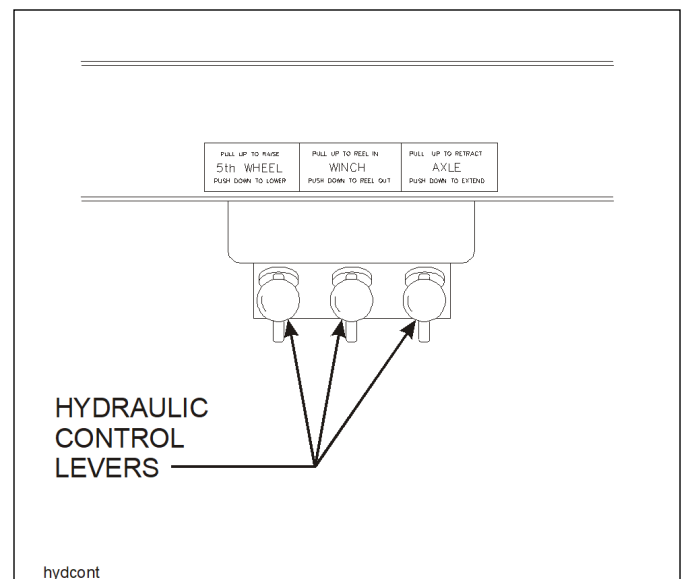

Figure 3-2: Hydraulic Control Levers
2. The king pin plate should be the same height as, or slightly lower than, the latch area of the fifth wheel plate of the tractor. If necessary, connect the tractor hydraulic lines or start the trailer hydraulic power engine. Use the **TRAILER TILT** lever to raise or lower the kingpin plate sufficiently to allow proper coupling (See **Figure 3-2.**) Drain all air and moisture from the tractor air brake system in accordance with the tractor manufacturer's instructions.
1. While hydraulic power is operating, raise the front end of the semitrailer with the **TRAILER TILT** lever until weight is off the landing gear (See Figure 3-2.) Raise landing gear. Secure each leg with a park stand retaining pin in fully retracted position before transporting.
The **TRAILER TILT** lever is located on the driver's side of the semitrailer under the outer frame beam (See **Figure 3-2.**) It has three positions:
The **AXLE CONTROL** lever is the control on the rear with three positions (See **Figure 3-2.**):
The **HYDRAULIC GEARBOX (WINCH) CONTROL** lever is the center lever (See **Figure 3-2.**) It is a three position control: